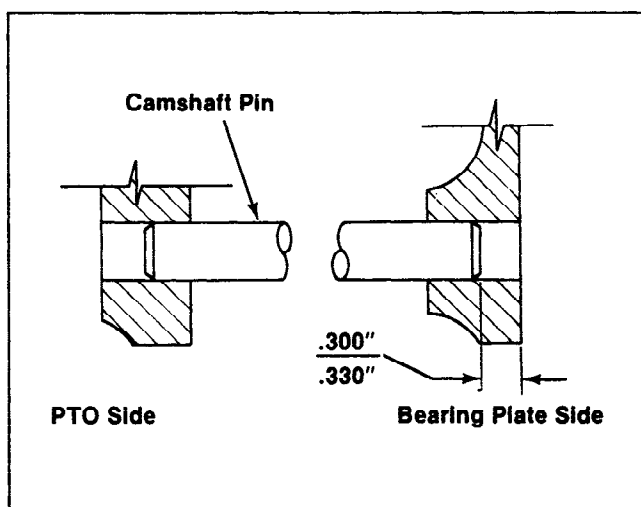

Figure 12-8. Installing Camshaft Pin.
- b. For Models K241, K301, K321, and K341 – drive the camshaft pin to a depth of **.300" / .330"** from the machined bearing plate gasket surface. Refer to Figure 12-8.